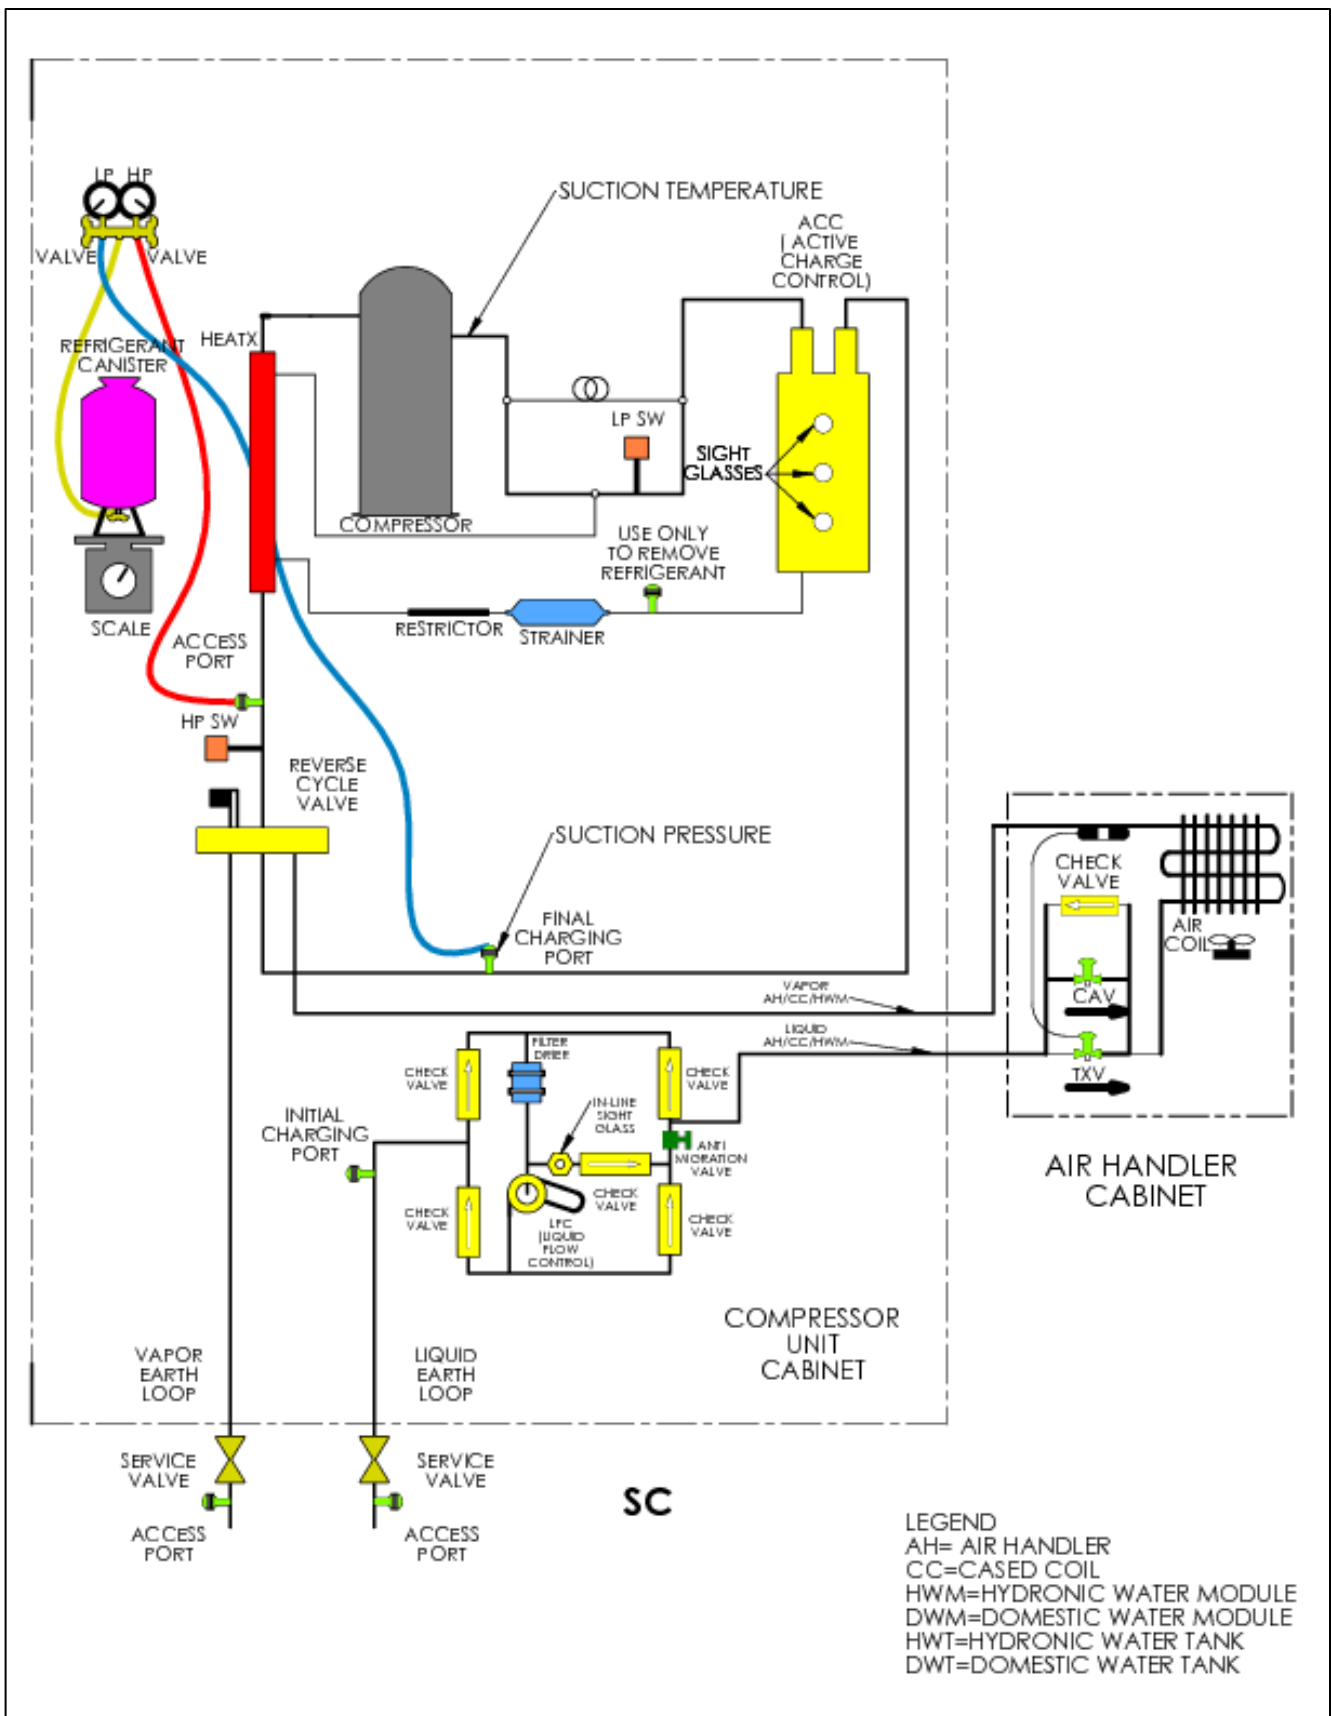
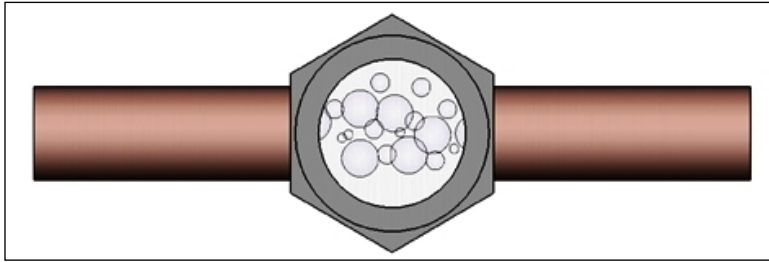
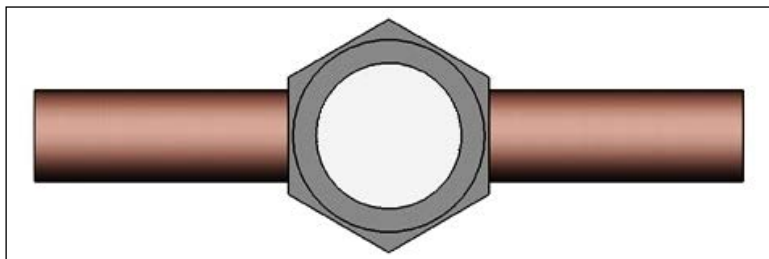
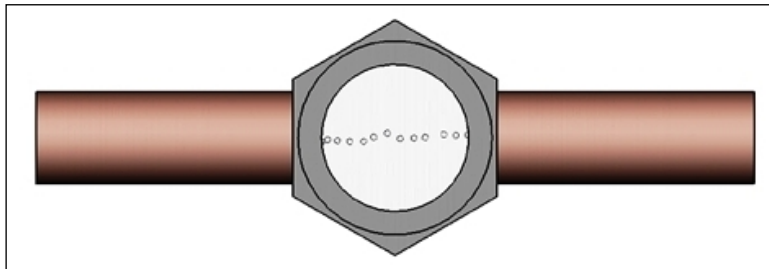

Figure 32. Suction Pressure and Temperature Measurements
Figure 33. Many Bubbles-Inline Sight Glass
Figure 34. Clear-Inline Sight Glass
Figure 35. Trickle of Bubbles-Inline Sight Glass
5. **Monitor the suction pressure**, as shown in Figure 32. If suction pressure is not yet up to 120 psig, the **INLINE sight glass** (not the ACC sight glass) will show refrigerant flow with many bubbles, as illustrated in Figure 33. This indicates that the Cooling Assist Valve (CAV) has not yet closed. Monitor the suction pressure rising. As the ground warms, the suction pressure will rise and the sight glass will show fewer bubbles.
6. **When suction pressure reaches 120 psig**, observe the **INLINE** sight glass. If it is either clear as shown in Figure 34, or has a trickle of bubbles as shown in Figure 35, no additional refrigerant charge is required. Go to step 10.
7. **When suction pressure is 120 psig, there are still many bubbles in the INLINE sight glass**, as shown in Figure 33, refrigerant must be added to the system through the final charging port.
8. **Observe the refrigerant flow in the INLINE sight glass.** If the sight glass has cleared, as shown in Figure 34, or there is a trickle of bubbles as shown in Figure 35, the system is fully charged.
9. **If there are many bubbles in the INLINE sight glass, as shown in Figure 33, additional refrigerant is required. Repeat step 7 until the INLINE sight glass clears or has a trickle of bubbles as shown in Figure 34 or 35, respectively, but DO NOT ADD MORE THAN THE FOLLOWING AMOUNTS OF REFRIGERANT TO THE SYSTEM DURING THIS PROCESS:**
11. The TXV is to be adjusted to provide 10°F to 15°F superheat while running in cooling mode. The first step is to utilize the final charging port and LP gage in Figure 32 to measure suction pressure. Next, apply a thermocouple at the compressor suction port as shown in Figure 32 by attaching the thermocouple lead with electrical tape, and wrapping with ½" thick insulation.